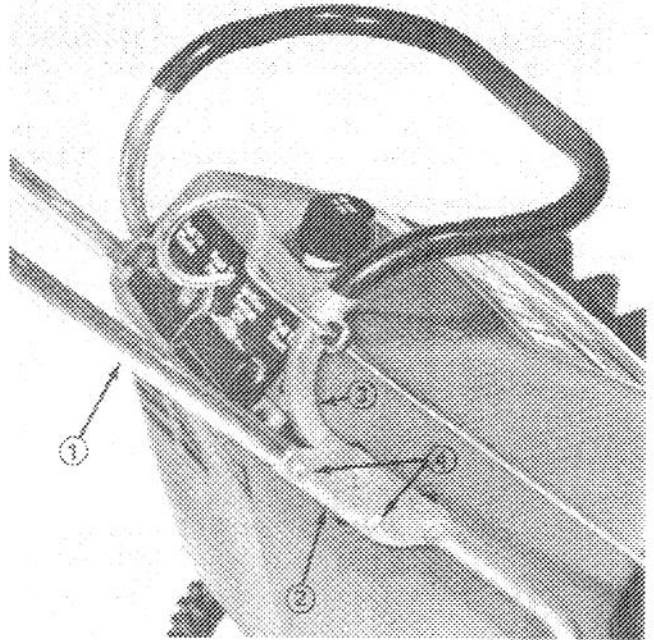

Figure 3
1. Slide upper handle into mounting bracket secured to lower handle. Line up mounting holes in bracket and handle (Fig. 3).
2. Secure both sides of handle in place with four machine screws. Tighten screws securely (Fig. 3).